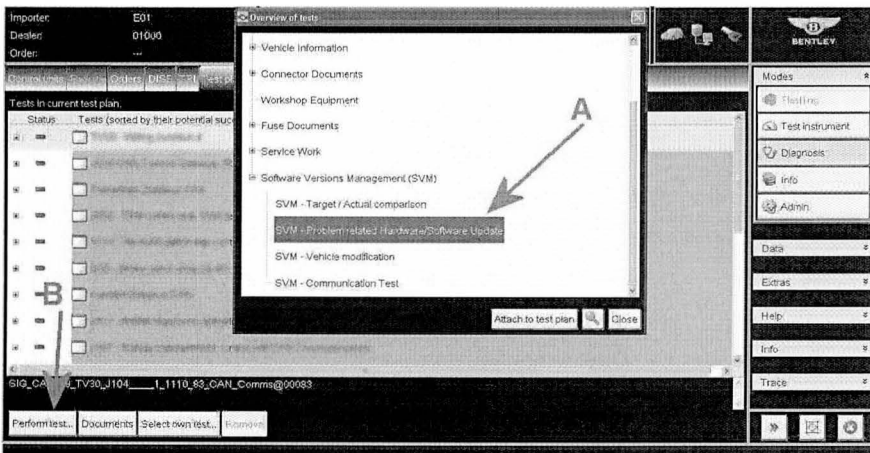

Figure 9
- Referring to Figure 9 - Ensure the Problem related Hardware/Software update is visible and highlighted as shown at Point A